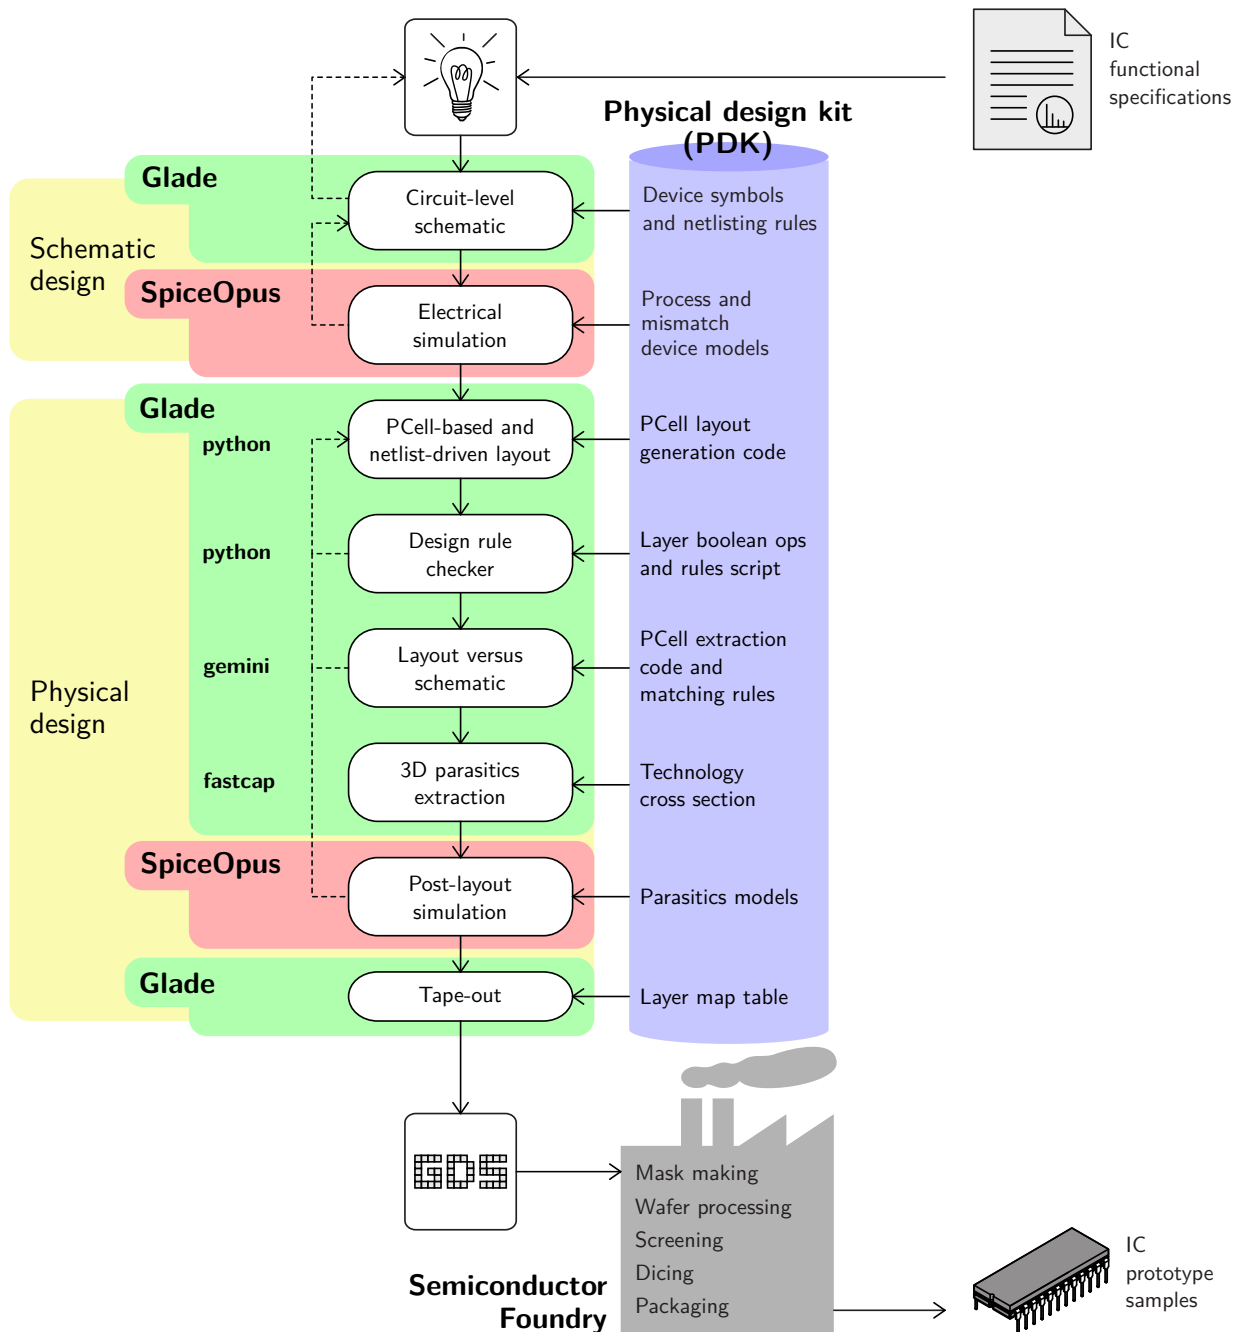

Figure 1 | General full-custom IC design methodology and proposed EDA tools.
The aim of these lab exercises is to introduce the general electronic design automation (EDA) methodology of Fig. 1 for full-custom analog integrated circuit (IC) design. For this purpose, a practical design case based on a simple operational amplifier (OpAmp) circuit is developed step-by-step, from the metal-oxide-semiconductor (MOS) transistor schematic to the physical mask layout.
The EDA tools chosen for the design flow of Fig. 1 are freely available for both MS Windows and Linux operative systems. In particular:
The **physical design kit (PDK)** contains all the technological information needed by Glade and SpiceOpus according to Fig. 1, as well as the lab exercises themselves.